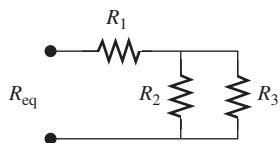

FIGURE P3.6 Circuit for Problem 3.6.
3.6 (A)* Find R_2 in Figure P3.6, given $R_{eq} = 17 \Omega$, $R_1 = 5 \Omega$, $R_3 = 15 \Omega$.